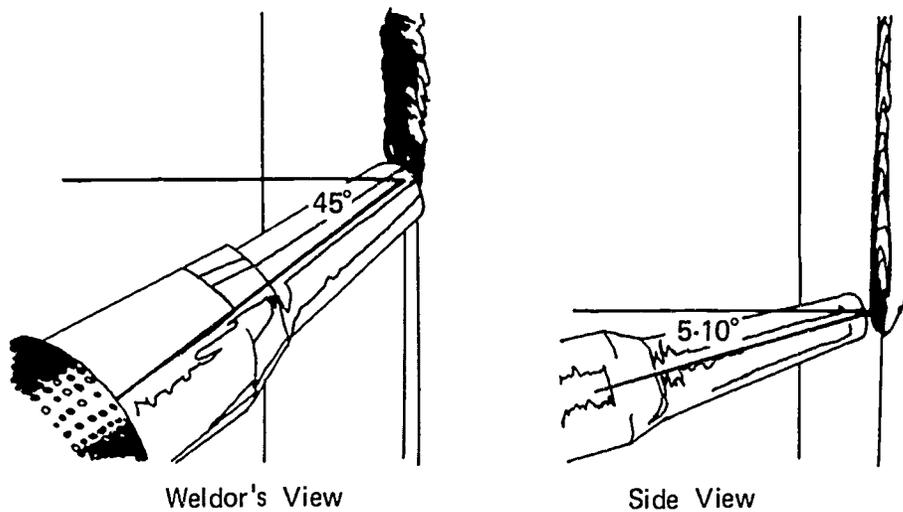

FIGURE 3
- F. Position gun at 45° side angle and 5°-10° down from horizontal (Figure 3)